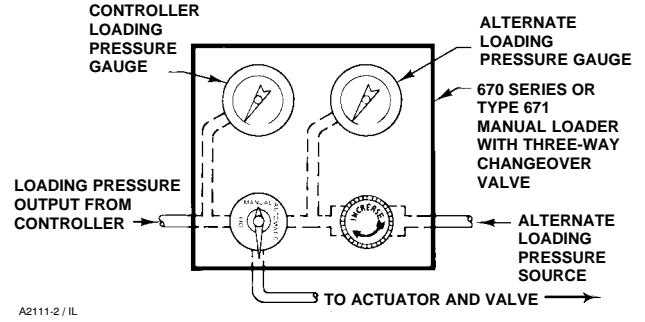

Figure 8. Schematic of Manual Backup Changeover Hookup for Wizard® II Controller
As shown in figure 8, a 670 or 671 Series panel-mounted loading regulator with changeover valve permits switching to an alternate loading pressure in the event of a supply pressure failure or other malfunction.
6. Bushing or thermowell (when the temperature bulb is to be used in a closed vessel). Refer to figure 8 for available sizes. Specify straight shank or tapered shank thermowell. (Tapered-shank thermowells, with their high strength-to-weight ratio, permit operation in higher process fluid velocities than do straight-shank thermowells.)